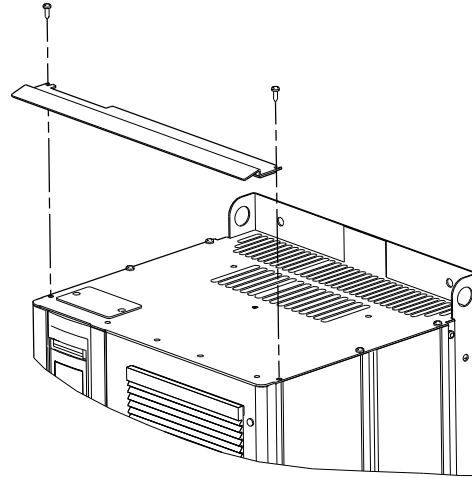

Fig. 6 Fitting the drip shield
1. Remove the two screws. See fig. 6.